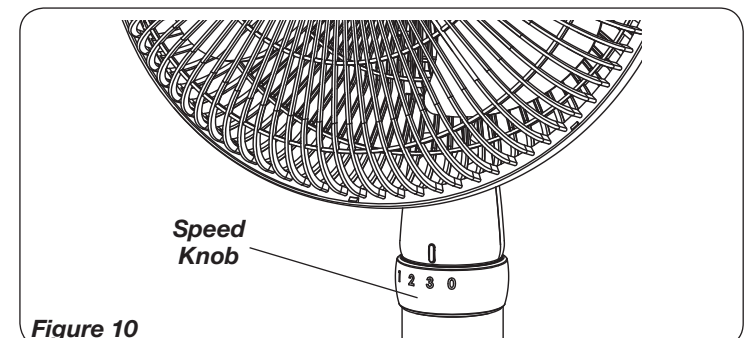

Figure 10
2. FAN SPEED: Control Fan speed with Speed Knob. (Figure 10)